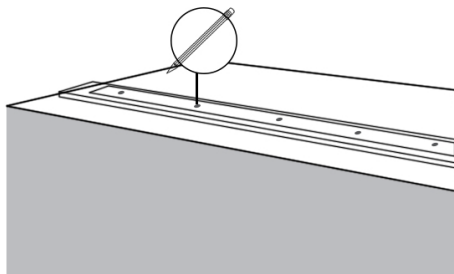

FIGURE 12
- Place the mounting board on a flat surface. Center the track on the mounting board, ensuring the track is straight and aligned properly. Using a pencil, mark the locations of the track mounting holes onto the board (see FIGURE 12).
- Once properly placed, mark the location of the guide on the floor. Attach the guide to the floor using the supplied screws. If needed, use the supplied anchors by drilling 1/4" (6.4mm) diameter holes for additional support (see FIGURE 12).